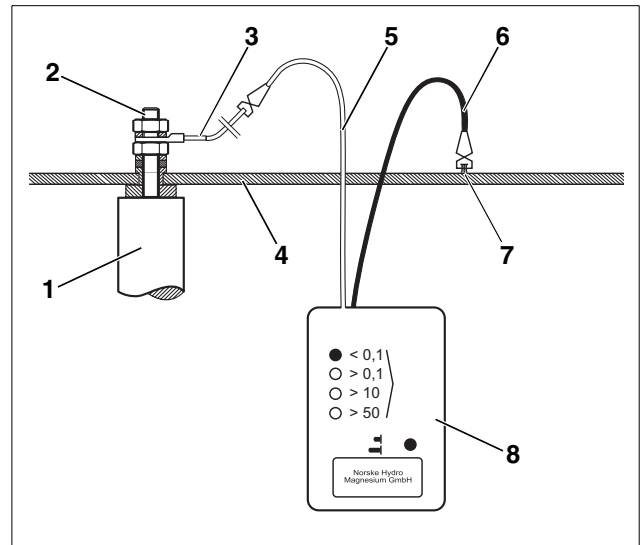

Fig. 17 Testing the anode with an anode tester
- Once you turn on the tester, the red light must come on. The test cables (Fig. 17, **Item. 5** and **6**) must not yet be connected.
- Loosen ground cable (Fig. 17, **Item. 3**) from the magnesium rod or tank shell.
- Connect the red cable (Fig. 17, **Item. 5**) of the anode tester to the Magnesium anode.
- Connect the black cable (Fig. 17, **Item. 6**) of the anode tester to a hex head bolt of the clean-out cover (Fig. 17, **Item. 7**).